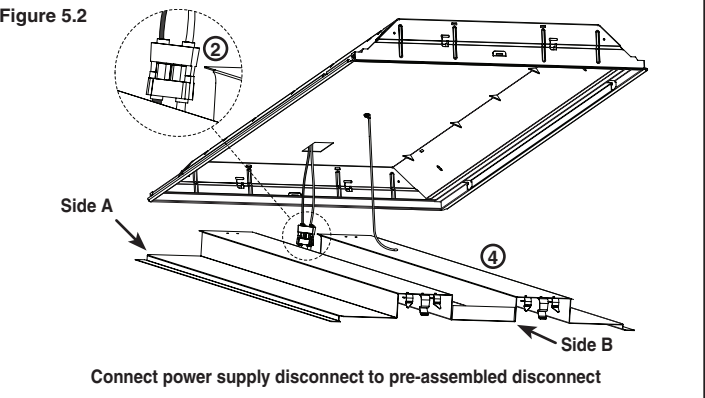

Figure 5.3
9. Install trim panel over side "A" of the liner between liner and grid. Angle trim panel and then rotate into place (see Figure 5.3).